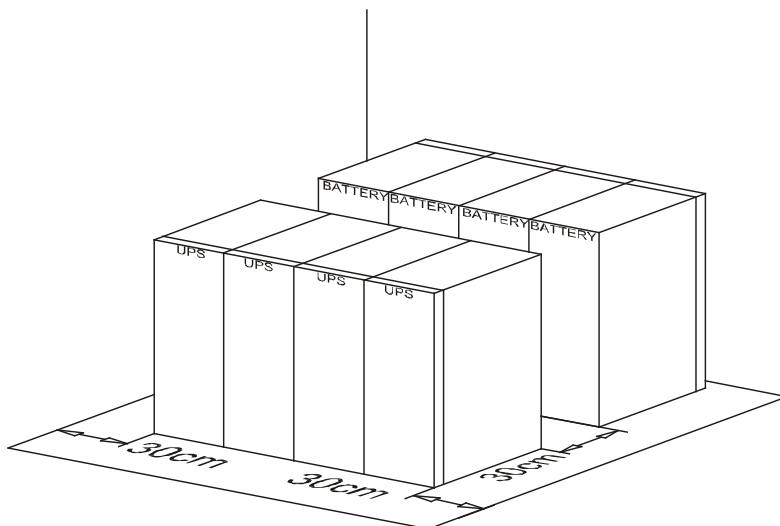

Fig. 2-3 For Tower Type
2.2.2. Select an installation position with at least 30 cm around the UPS and Battery bank, where may provide a good ventilation condition as indicated in Fig. 2-3 & 2-4.